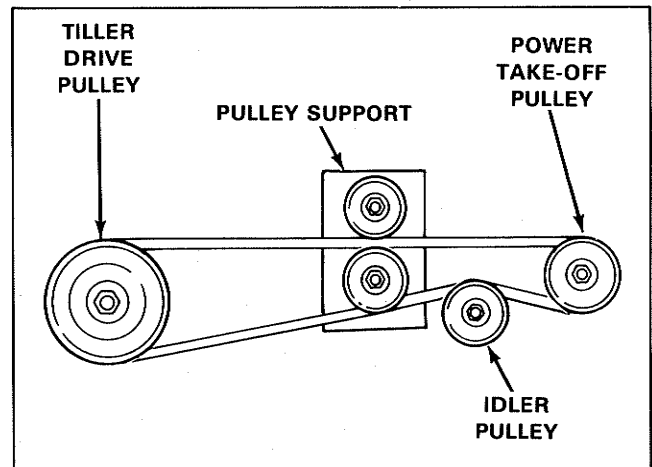

Figure 6. Belt Threading Diagram
11. Pull rotary tiller drive belt forward and over the tractor power take-off pulley. Be sure belt is not twisted and that it is positioned on pulleys as shown in figure 6.